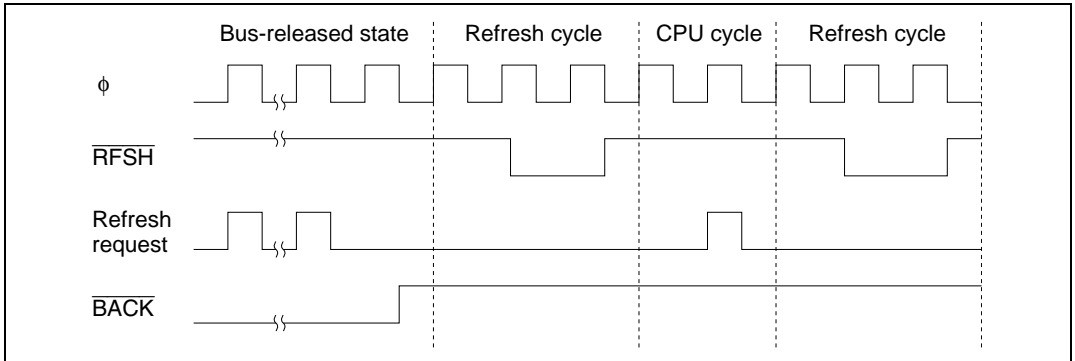

Figure 7.24 Refresh Cycles when Bus Is Released
- If refresh requests occur while the bus is released, the first request is held and one refresh cycle is executed after the bus-released state ends. Figure 7.24 shows the bus cycles in this case.